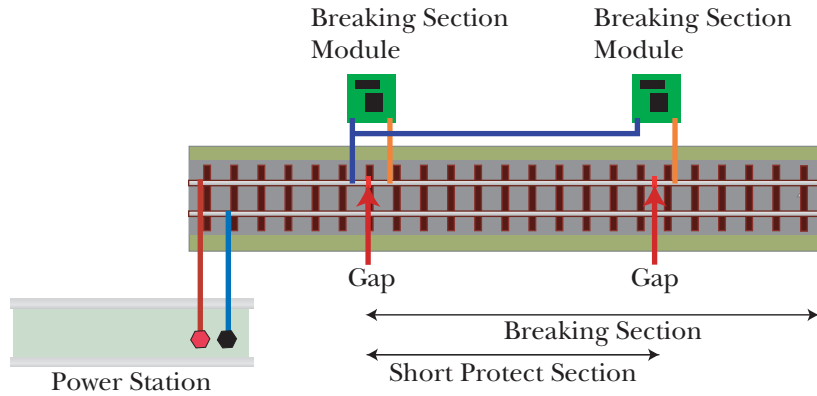

Fig.IX-5 The Connection of Short Protect Breaking Section.
2. Please decide the operation diagram of the train as illustrated in Fig. IX-5.